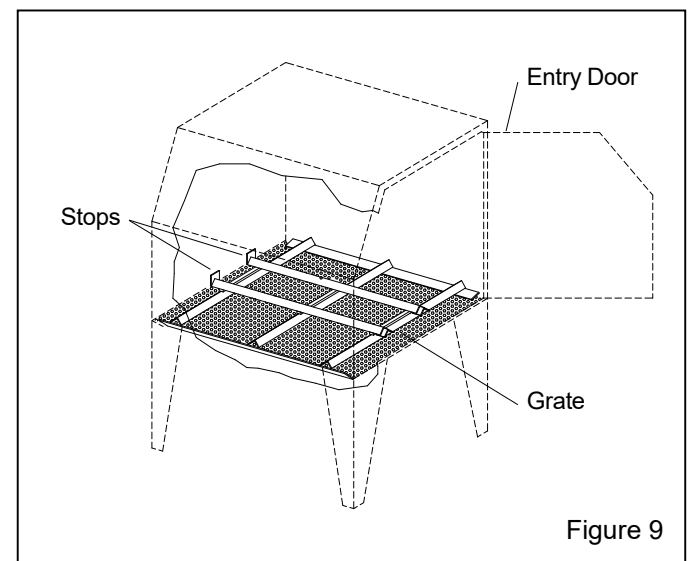

Figure 9
3.2.2 Place the inside track in the cabinet over the existing grate, as shown in Figure 9.